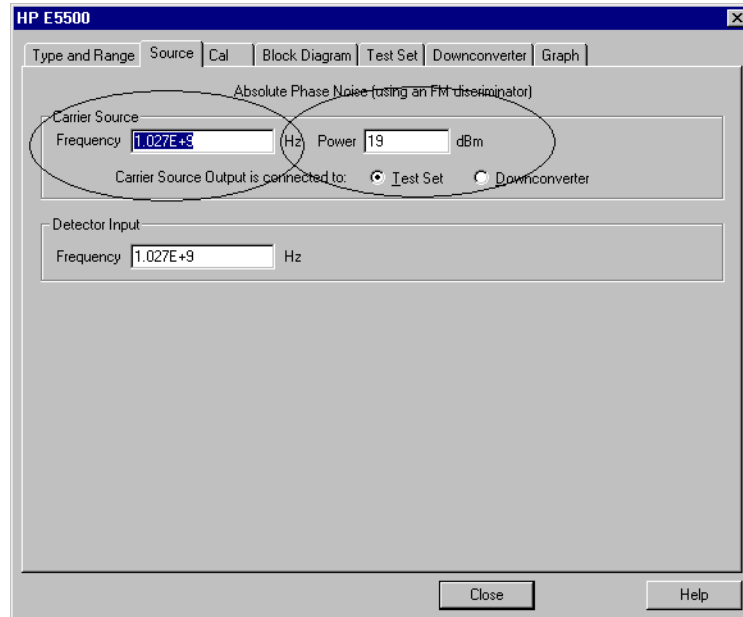

Figure 11-21 Enter Frequencies into Source Tab
- a Enter the carrier (center) frequency of your UUT (5 MHz to 1.6 GHz). Enter the same frequency for the detector input frequency. See Figure 11-21.